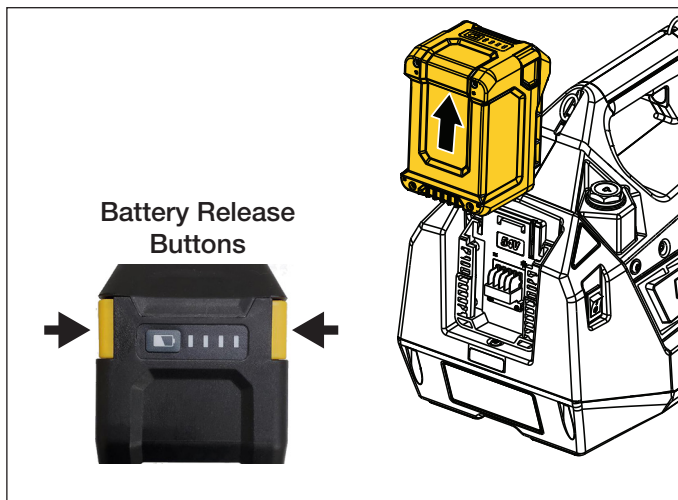

Figure 8: Battery - Remove
- **To remove battery from pump:** Press and hold the release buttons located on each side of the battery. Then, slide the battery upward and remove it from the pump. See Figure 8.